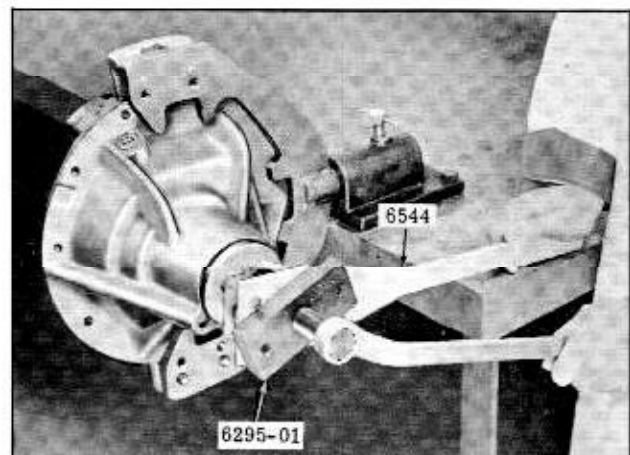

Fig. 6-22 Removing Companion Flange
4. Using companion flange puller J-6295-01 and holding Tool J-6544, remove companion flange. (Fig. 6-22)